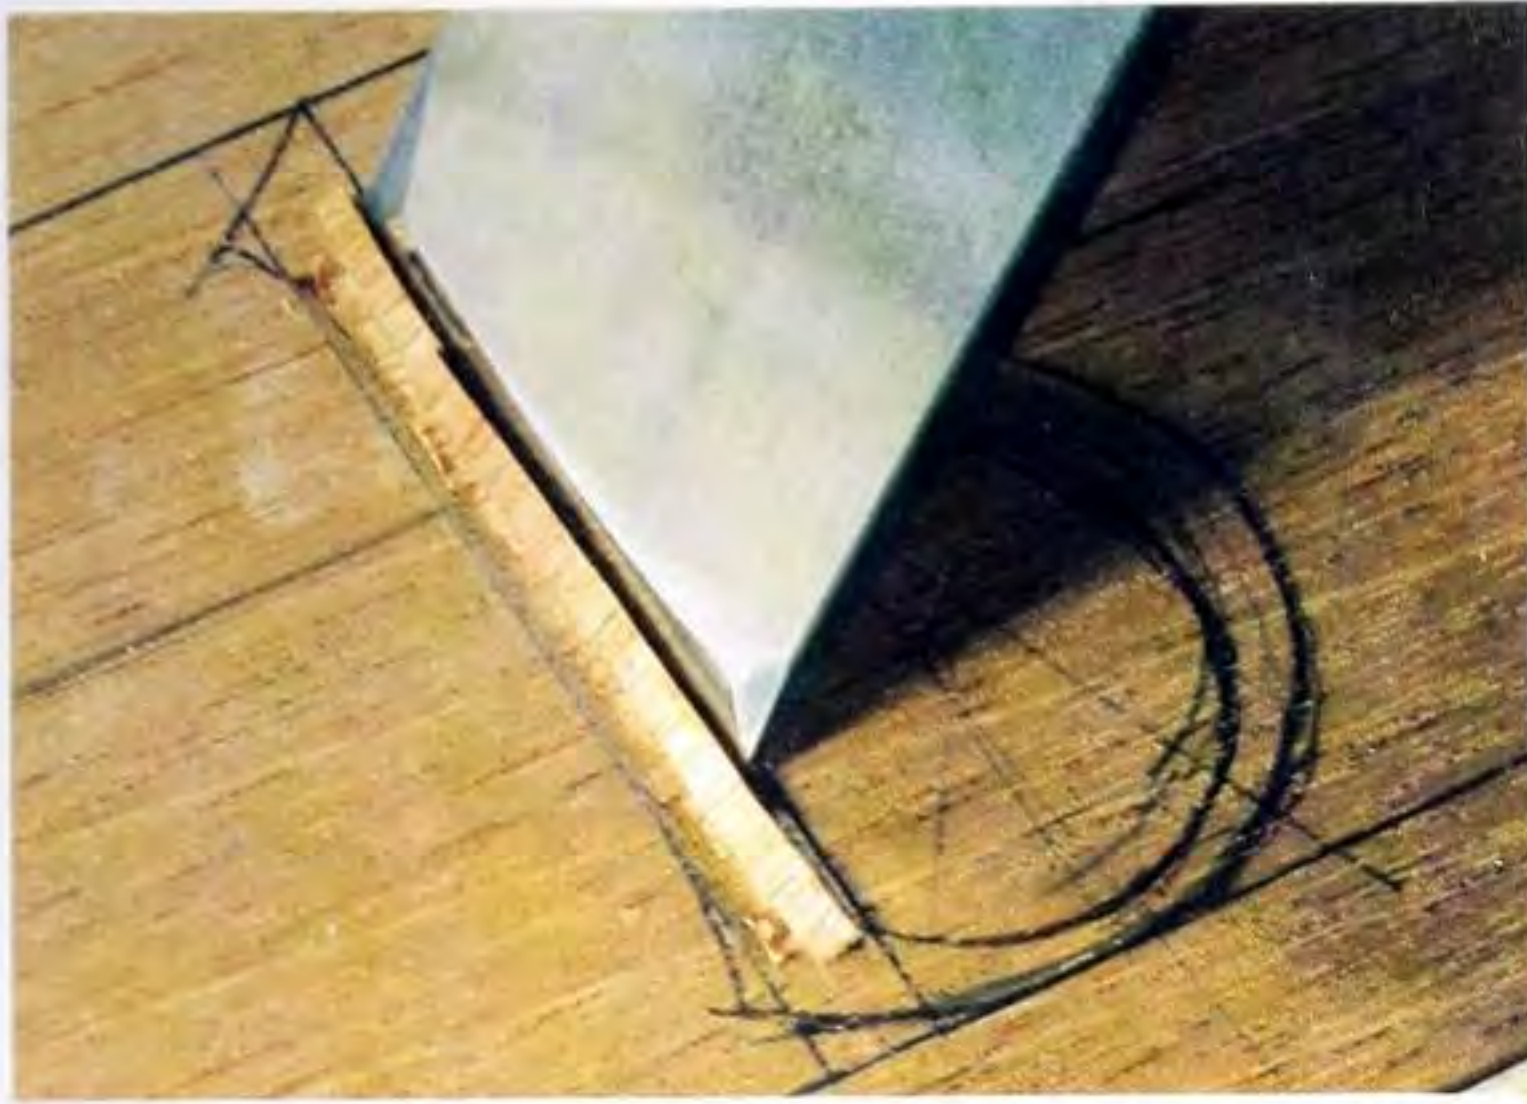

Fig 10.4 Letter b in lower case roman. The angled cuts to the vertical trench are made first.
- 1 Refer to Figs 10.4 to 10.9. After drawing out the letter, cut the vertical trench first.